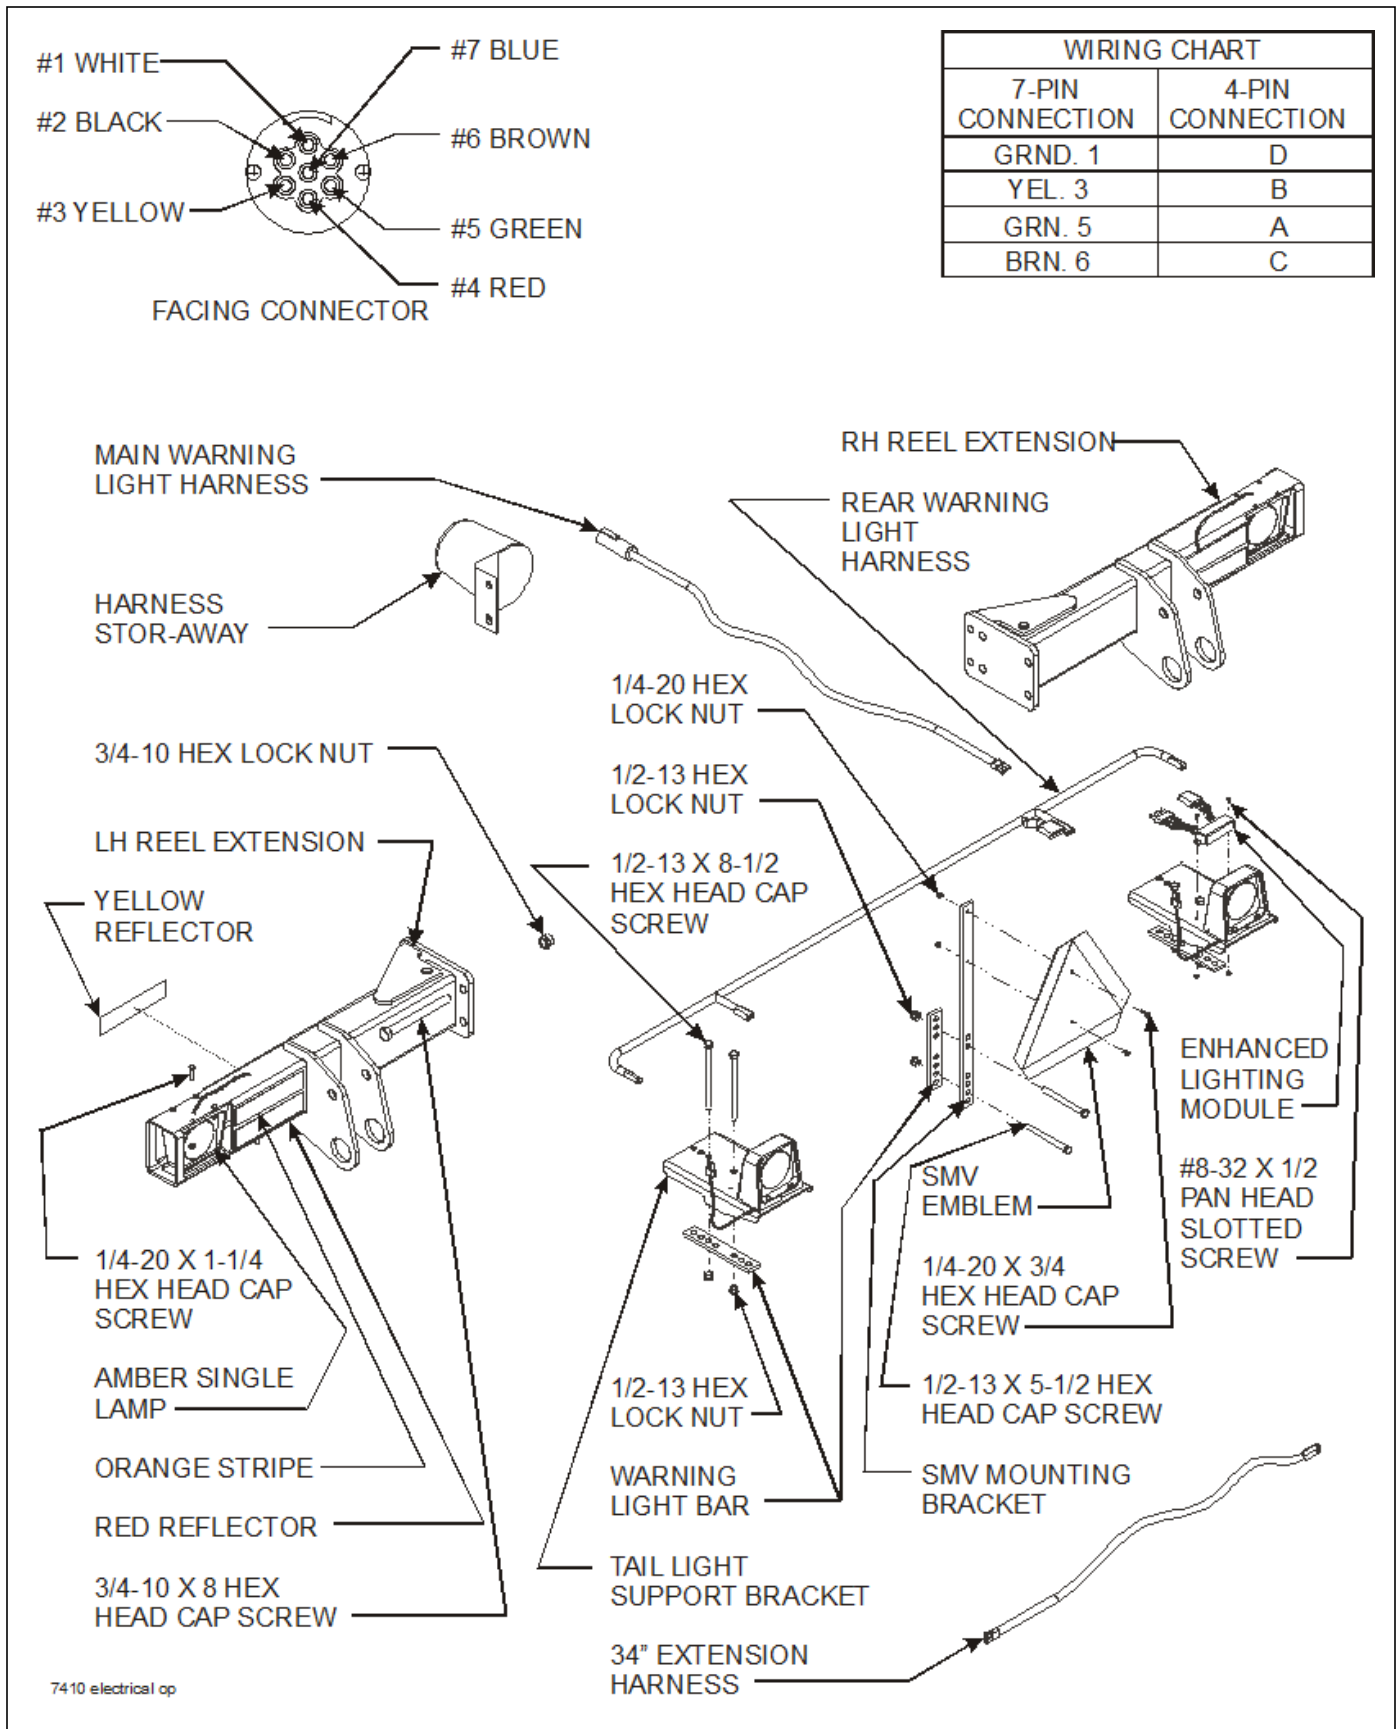

Figure 3-9: Light and SMV Bracket Installation (Prior to August, 2013)
1. Attach lights and reel extensions to the frames using 3/4-10 x 8 hex head cap screws, 1/2-13 x 8-1/2 hex head cap screws, and hex lock nuts (**See Figure 3-9.**) Refer to **Figure 2-6** for light bracket placements.